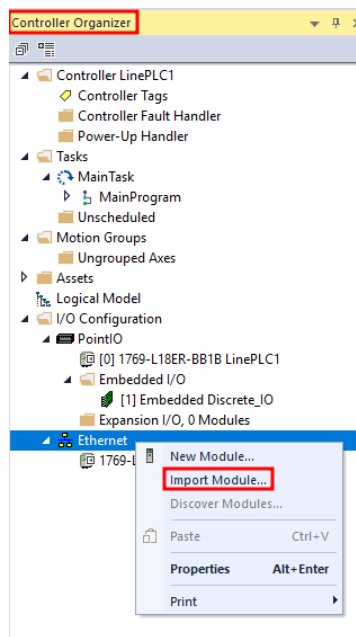

Figure 27: Import Module from Controller Organizer Ethernet Tree
8. Open the “Controller Organizer,” Figure 27.
10. From the list choose “Import Module,” Figure 27.